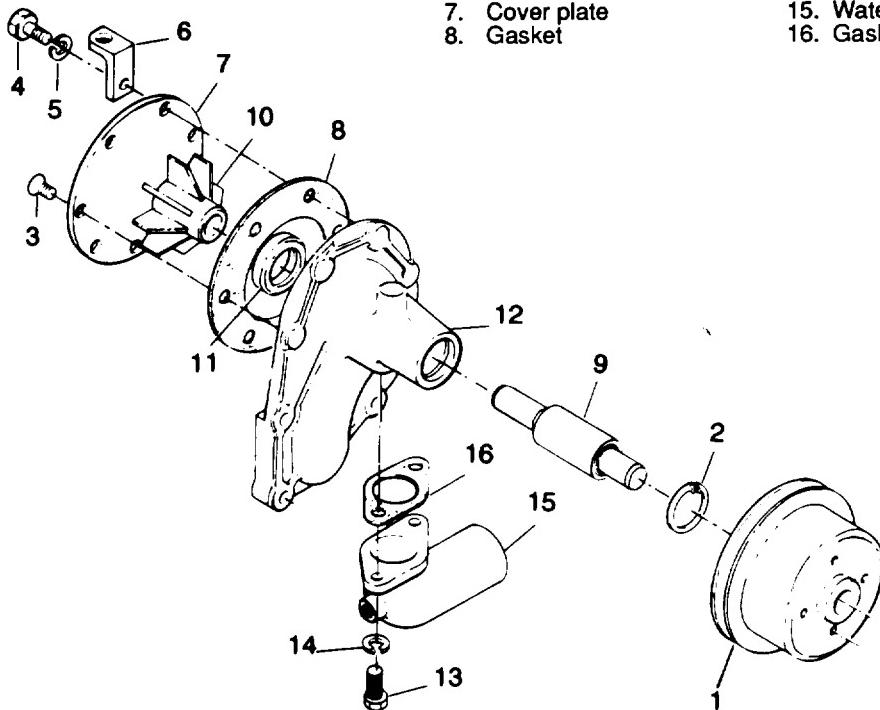

Figure 3-28. Water Pump Assembly, Exploded View
- (1) Using a suitable puller, remove pulley hub (1, figure 3-28).
- (2) Remove retaining ring (2).
- (3) Remove screws (3 and 4), lockwasher (5) and bracket (6) to remove cover plate (7) and gasket (8).
- (4) Support front end of pump in bed of arbor press and press shaft bearing and flinger assembly (9) from impeller (1 0), seal assembly (11), and pump body (1 2).